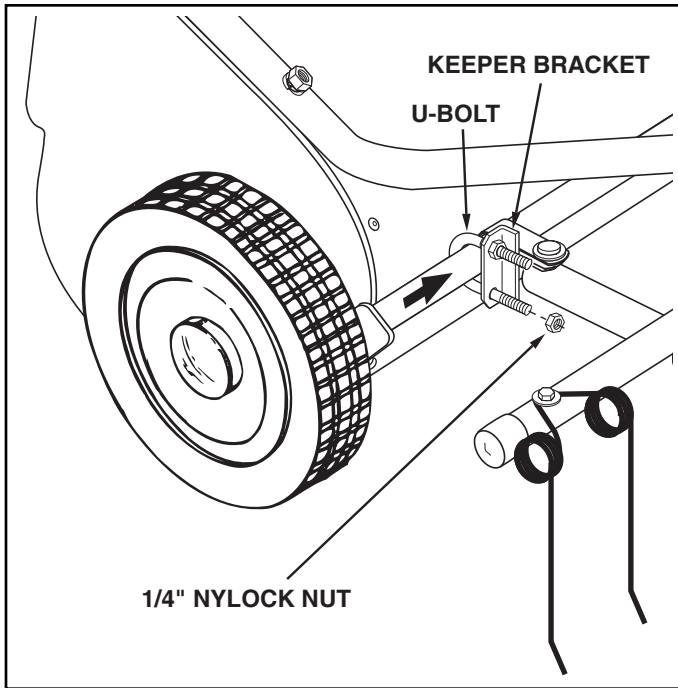

FIGURE 5
9. Assemble the keeper brackets (bend to the inside) to the sweeper's hitch tube, outside of the conduit clamps. Use a u-bolt and two 1/4" nylock nuts per bracket. Position the keeper brackets against the sides of the conduit clamps, approximately perpendicular to the ground. Tighten the nylock nuts without bending the keeper brackets. See figure 5.